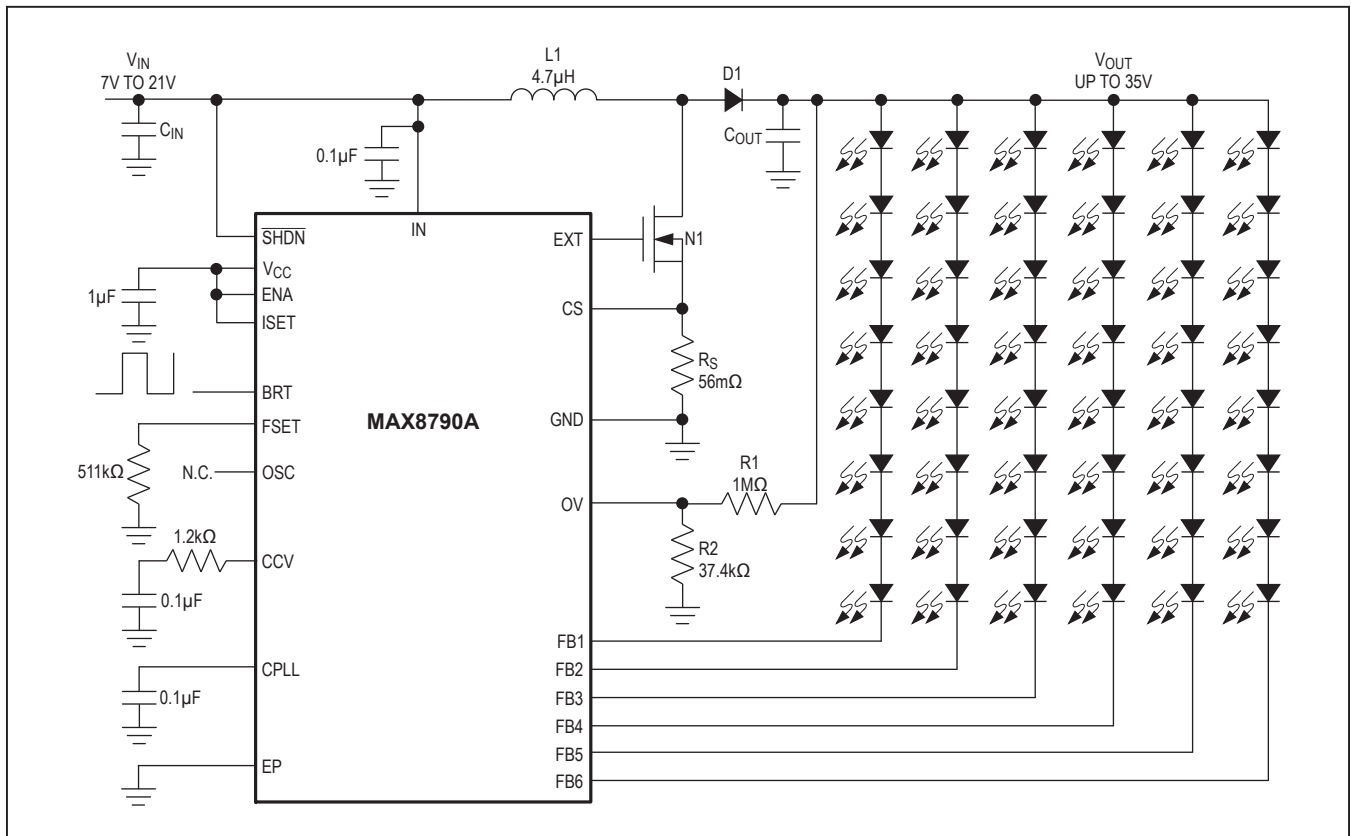

Figure 1. Typical Operating Circuit
**Electrical Characteristics (continued)**(Circuit of Figure 1.  $V_{IN} = 12V$ ,  $V_{\overline{SHDN}} = V_{IN}$ ,  $CCV = 0.1\mu F$ ,  $T_A = -40^{\circ}C$  to  $+85^{\circ}C$ , unless otherwise noted.) (Note 2)
To protect the step-up converter when the load is open, or the output voltage becomes excessive for any reason, the MAX8790A features a dedicated overvoltage feedback input (OV). The OV pin is connected to the center tap of a resistive voltage-divider from the high-voltage output (see Figure 1). When the MAX8790A is powered up, if none of the LED strings on FB1–FB6 are connected to the step-up converter output, the step-up converter regulates the output voltage to  $V_{\text{OUT}} = 1.23\text{V}(1 + R1 / R2)$ . When  $V_{\text{OV}}$  exceeds 1.23V, a comparator turns off N1. The step-up converter switch is reenabled after the output voltage drops below the protection threshold.